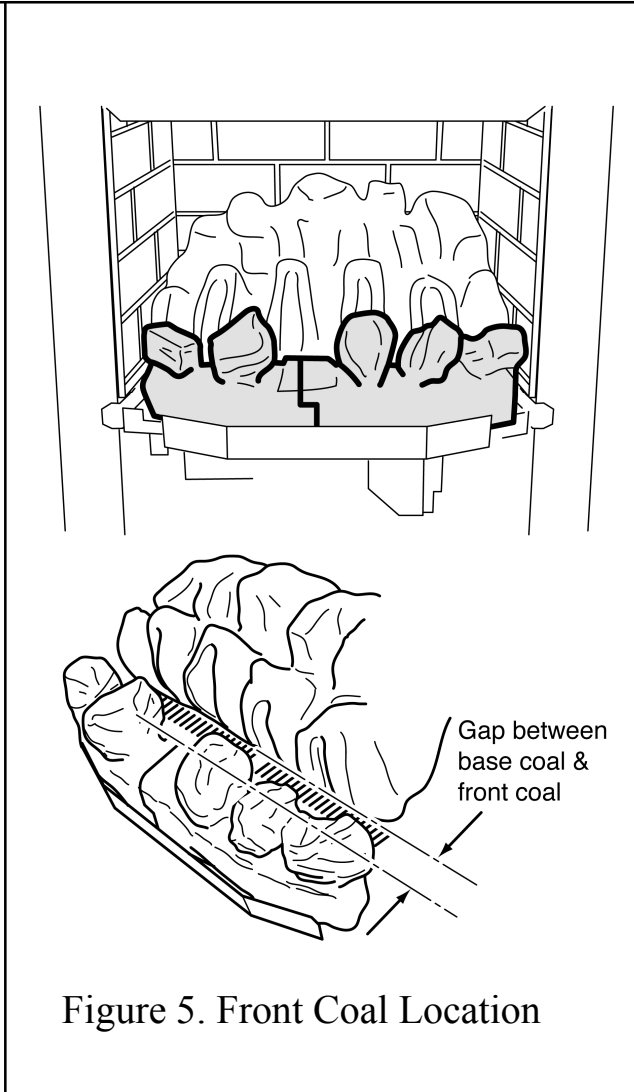

Figure 5. Front Coal Location
3. Place the left-hand ceramic front coal in position in front of the base coal (See figure 5).
4. Place the right hand ceramic front coal in position in front of the base coal. This should overlap the left-hand coal. Push the two sides together to minimise the gap. (See figure 5).
5. There will be a gap between the rear of the front coals and the front of the base coal. (See figure 5).